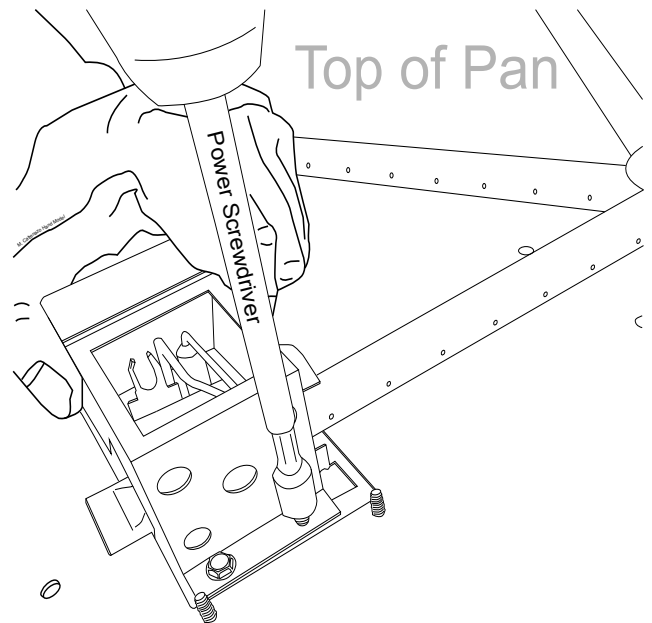

Fig. 16 Installing ignition hood.
Step 5: Using a power screwdriver install the ignition hood over top of the MSI assembly plate. See Fig. 16. Align the five holes from the ignition hood to the five hole of the assembly plate, then secure in place with provided screws.